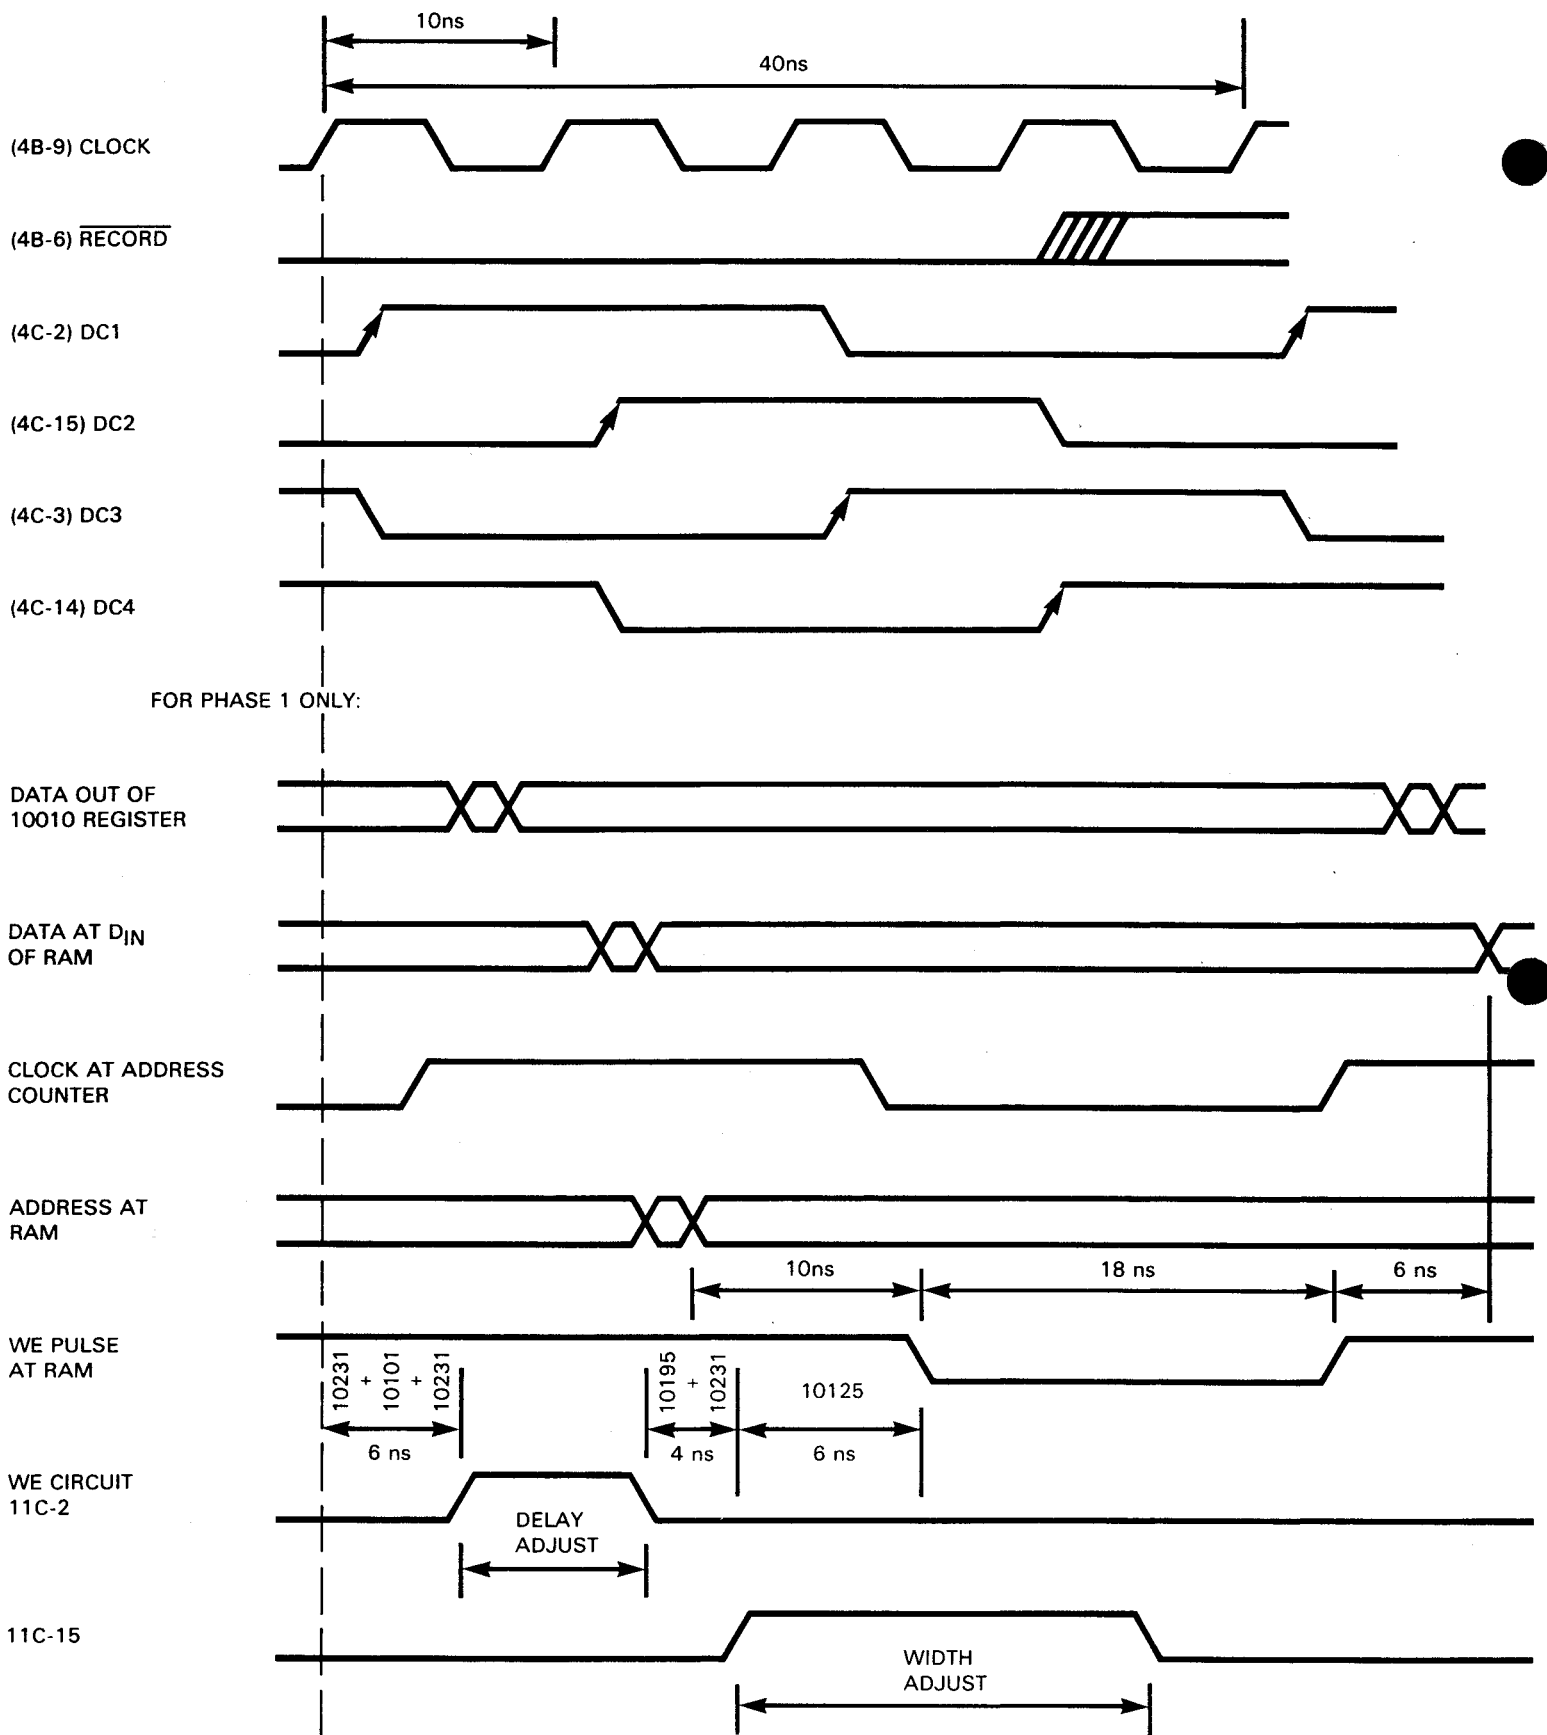

Figure 4.17 Record Memory Timing
4.6.2 Figure 4.17 shows the typical timing of the memory system signals.